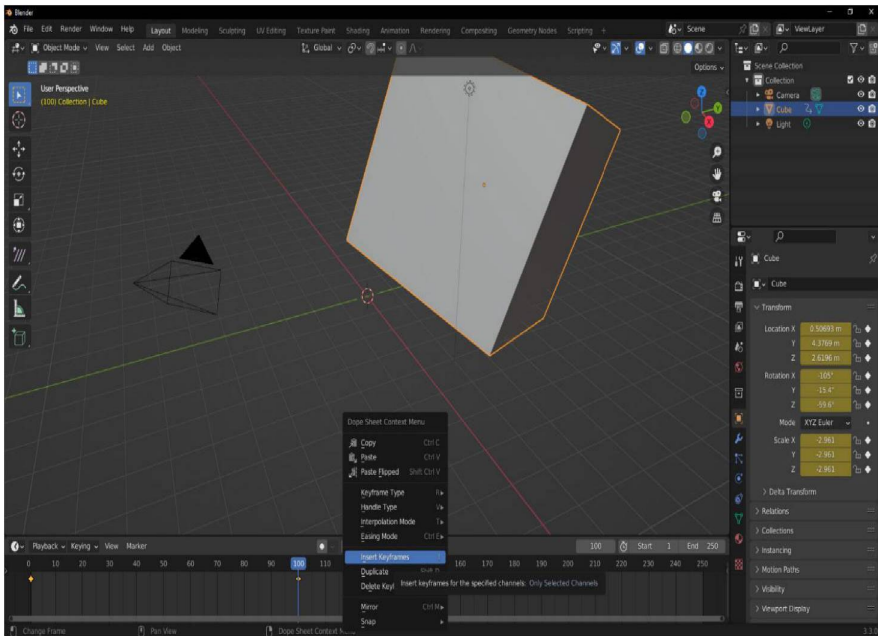

Figure 8.5: Inserting a Keyframe which records the chosen Active Keying Set in the Timeline
- Right-click anywhere along the **Timeline** and choose **Insert Keyframes** as shown in *Figure 8.5*, and a new **Keyframe** will appear in the **Timeline** where the play head is currently set, recording the **Transforms** we indicated with the **Active Keying Set** we chose earlier.